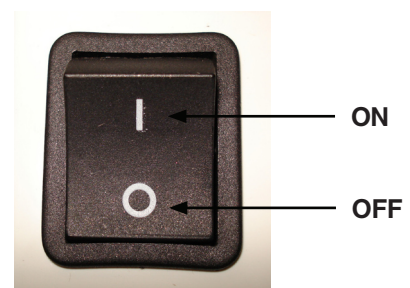

Figure 2
6. Turn “ON” the air supply by pressing the switch to the “I” position (Figure 2).
10. Turn “OFF” air supply by pressing the switch to the “O” position (Figure 2).